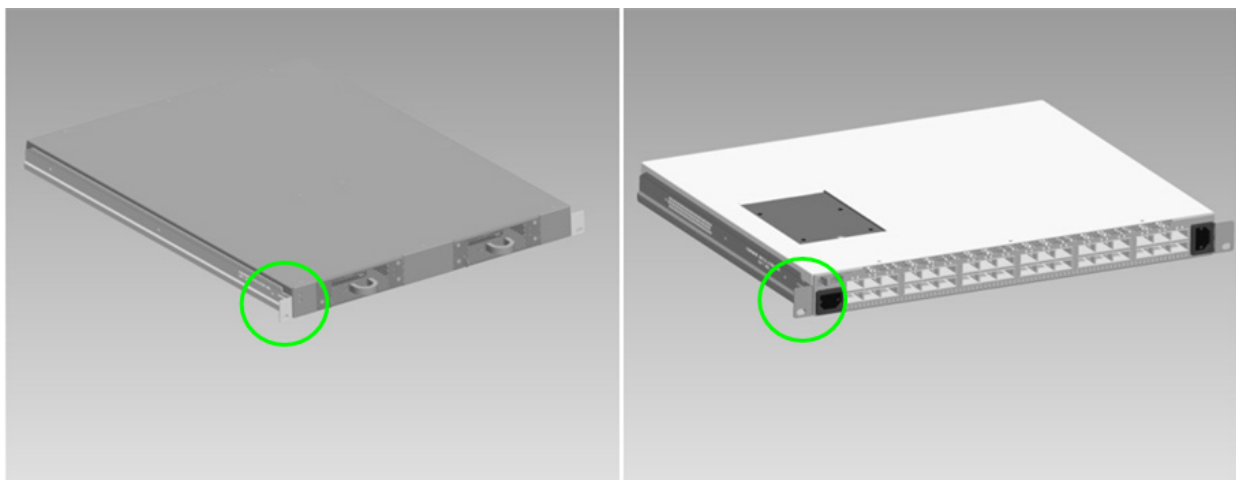

Figure 1-3. 12200 and 12300 Hat Rails
1. Install the hat rails on each side of the switch using three (3) #6-32 screws per rail. Torque screws to 8in-lb. A typical installation is shown in Figure 1-3. On the 12300, hat rails are installed with mounting ears towards the power supply side of the switch. On the 12200, hat rails are installed with mounting ears towards the port side of the switch. Additionally, 12200 switches can be installed recessed within a rack. There are four sets of mounting holes on hat rails, for recess installations of 0, 2, 3 or 4 inches. Use the appropriate mounting holes to achieve the desired recess.